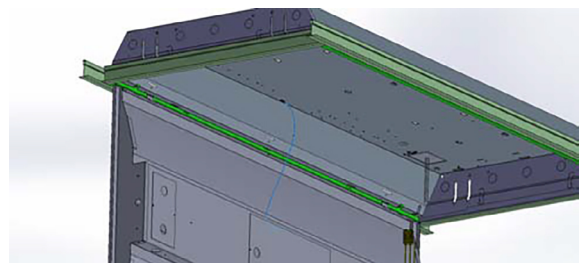

Fig. 1.5
7. With the provided self tapping screws attach safety cable into the existing fixture (Fig.1.5).